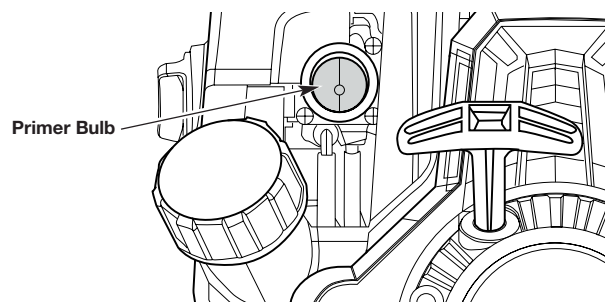

Fig. 8
3. Slowly press and release the primer bulb 10 times (Fig. 8).